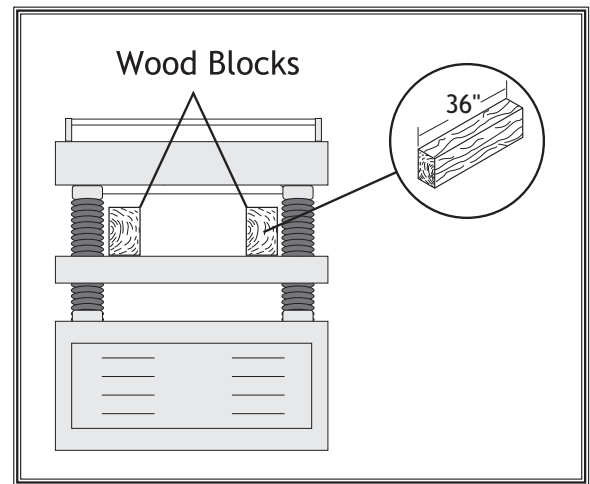

Figure 33. Wood blocks on table.
4. Place one wood block along the left side of the table, and place the other wood block along the right side of the table, as illustrated in **Figure 33**.